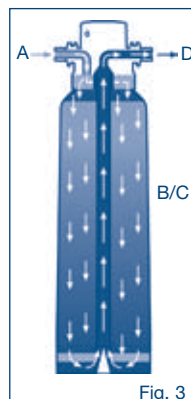

Fig. 3
The natural water (A) flows to the filter cartridge (Fig. 3). In area (B/C), particles and iron (II) are removed.
① INFORMATION